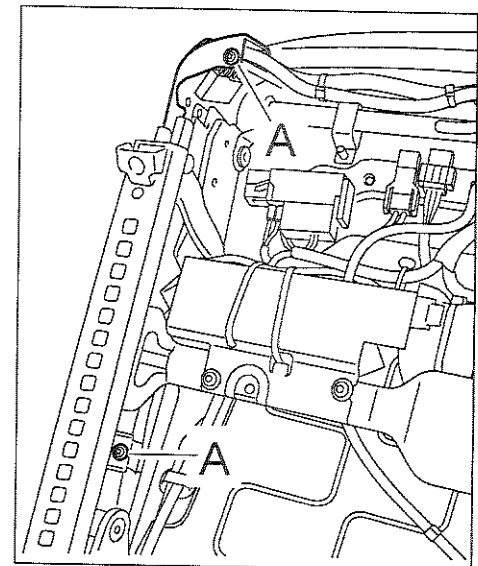

Figure 4
2.1.3 Unscrew front and rear fastening screw ⇒ *Figure 4 -A-* on control module trim panel.